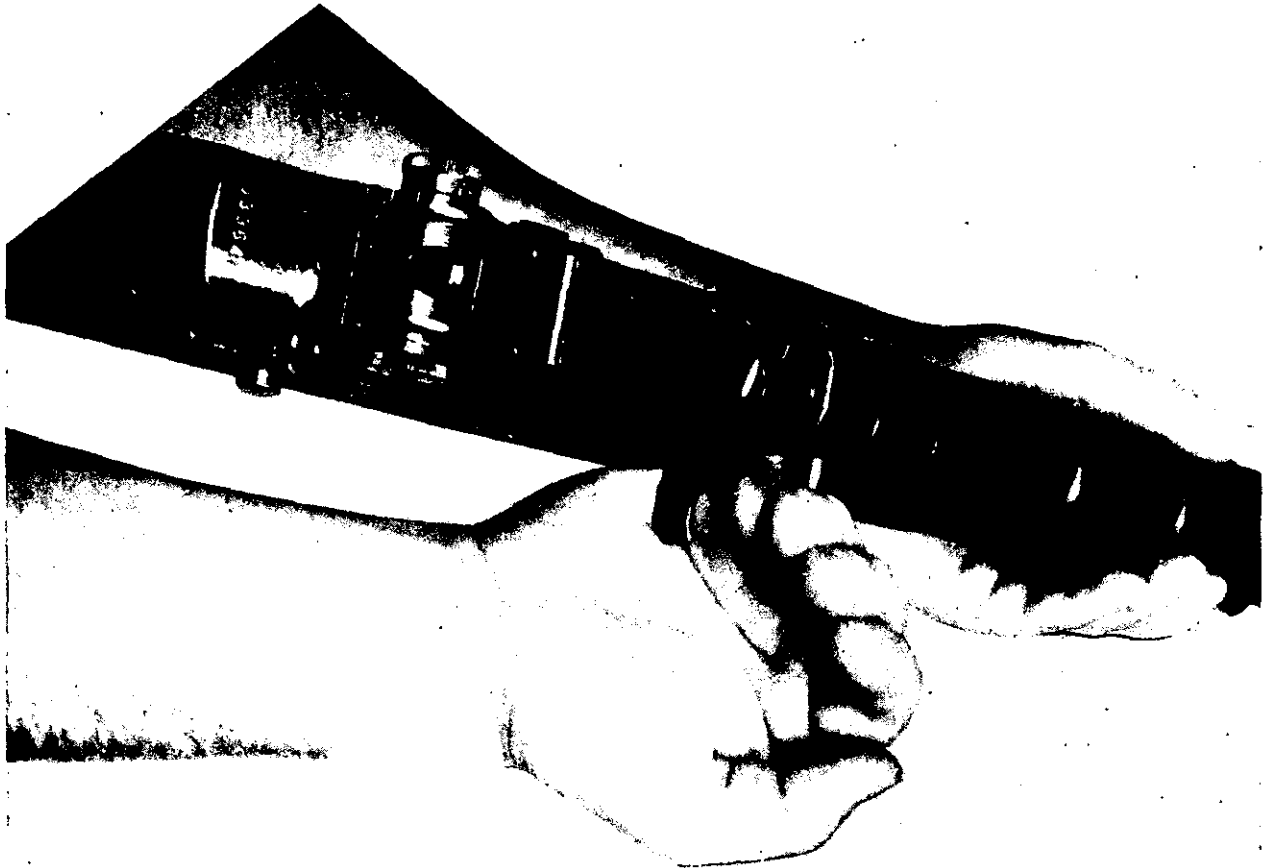

Figure 39. Applying immediate action.
a. The first phase is taught as a drill so that the rifleman learns to perform it quickly and instinctively without thought as to the cause of the stoppage. To apply the first phase, with the right hand, palm up, pull the operating rod handle all the way to the rear. Release it, aim and attempt to fire. The palm is up to avoid injury to the hand in event of a cookoff or hangfire (fig. 39).
- (1) TAKE the rifle from the shoulder.
- (2) PULL the operating rod handle slowly to the rear.
- (3) LOOK in the receiver.
- (4) LOCATE the stoppage by observing, as the operating rod handle is pulled to the rear, what is in the chamber, and what has been ejected.
- (5) REDUCE the stoppage and continue to fire.